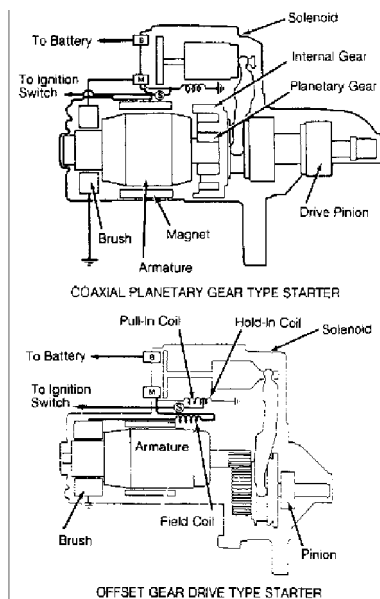

Fig. 1: Nippondenso Reduction Gear Type Starters
See Fig. 1.
Gear reduction is performed by offset gear and shaft assembly. See Fig. 1.
If starter does not operate, check voltage at starter "S" terminal with ignition switch in START position (and clutch depressed on M/T). See Fig. 1. If voltage is greater than 8 volts, repair or replace as required. If voltage is less than 8 volts, check ignition switch, inhibitor switch (A/T), interlock switch (M/T) and wiring.
1) Disconnect all wires from solenoid, including "M" wire between solenoid and starter. Using ohmmeter, ensure there is continuity between "S" and "M" terminals, and between "S" terminal and solenoid body. See Figs. 1 and 2. If continuity does not exist between these terminals, replace solenoid.